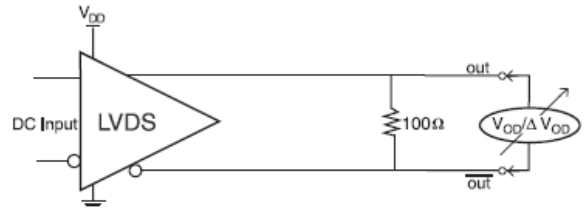

Figure 12.  $V_{OD}$  and  $\Delta V_{OD}$
6.  $V_{OS}\text{ max} + \frac{1}{2} V_{OD}\text{ max}$ . Also see Figures 12 and 13.
7.  $V_{OS}\text{ min} - \frac{1}{2} V_{OD}\text{ max}$ . Also see Figures 12 and 13.